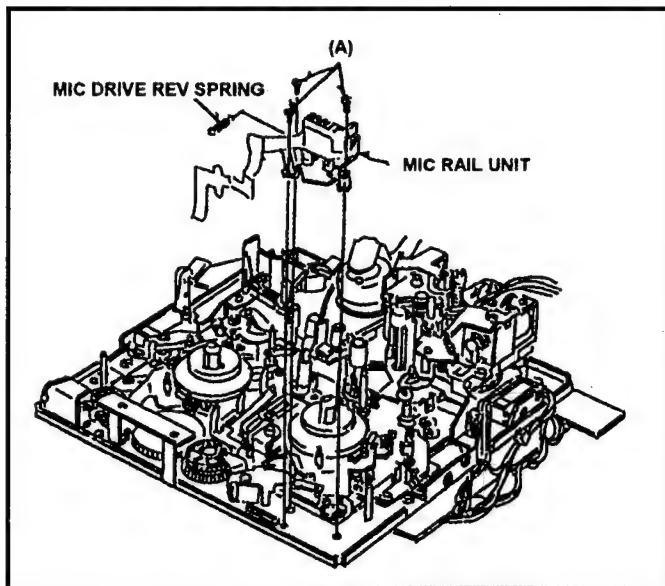

Fig. 4-12-1 Removal of MIC Rail Unit
1. Remove the Mechanical Unit (Refer to item 2-1, Removal of Mechanical Unit).
3. Remove the MIC Drive Rev Spring at MIC Rail Unit side as shown in Figure 4-12-1.
4. Unscrew the 3 screws (A) and remove the MIC Rail Unit as shown in Figure 4-12-1.